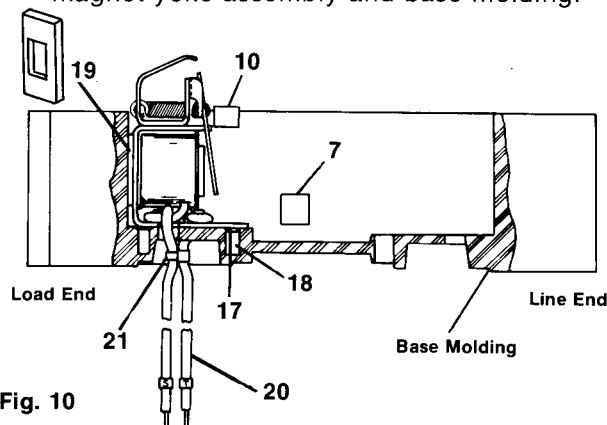

Fig. 10
3. Place shunt trip in the molding cavity as illustrated in Fig. 10.